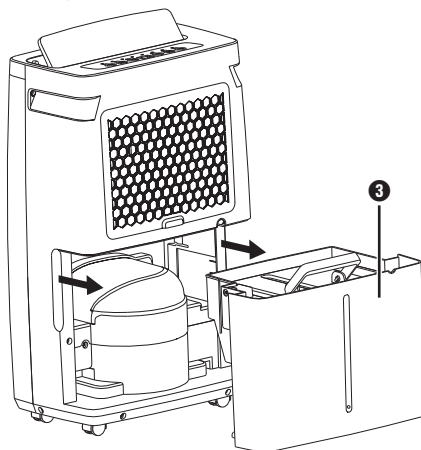

Fig. 1
- ◆ Carefully pull the water tank ❸ out of the appliance using the recessed grips on the side. Use the handle to transport the water tank ❸ (see figure 1).